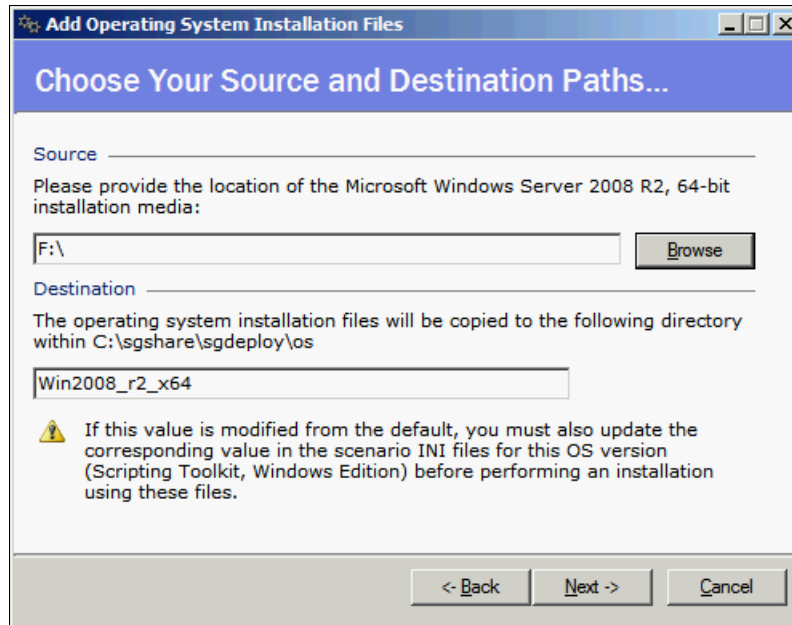

Figure 6-44 Define the source and target
4. Insert the correct OS installation media or select the folder that contains the installation files for the source, as shown in Figure 6-44 on page 268. If necessary, modify the target and click **Next**.